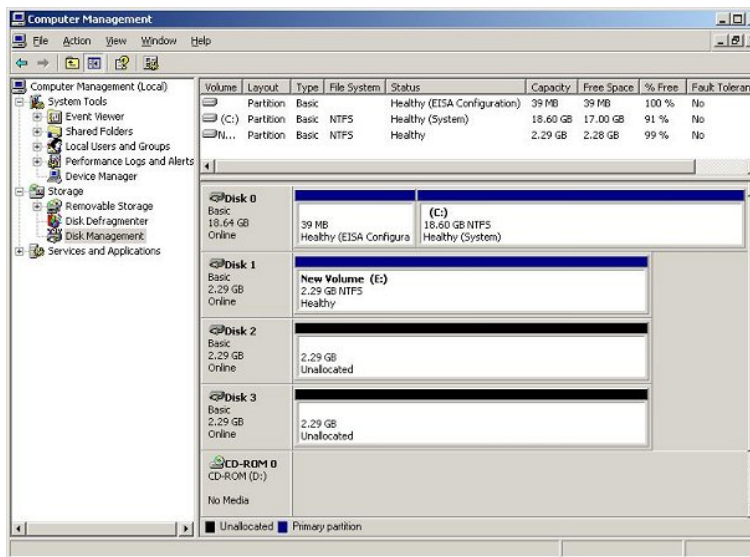

Figure 3.10 Verifying Formatted Partition
8. Verify that the Disk Management main panel displays the correct file system (NTFS) for the formatted partition (see Figure 3.10). The word **Healthy** indicates that the partition has been created and formatted successfully.